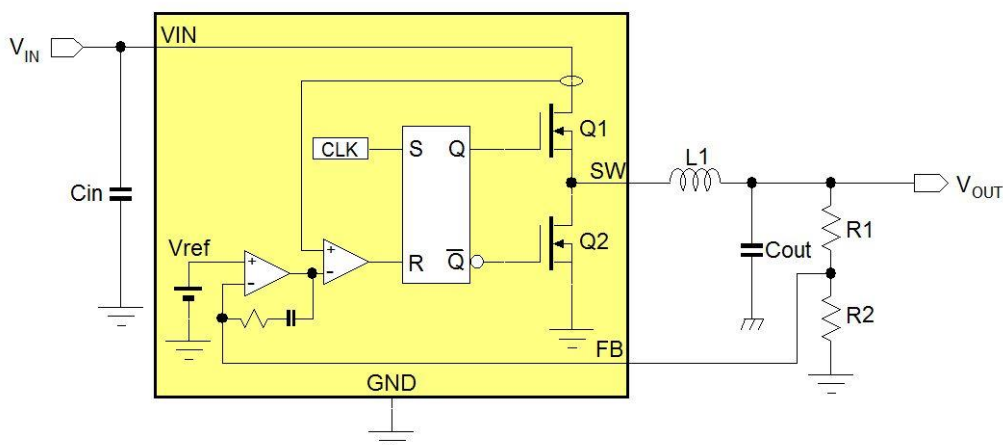

Figure 3. Basic Buck converter circuit
**Buck converters** are switch-mode step-down converters which can provide high efficiency and high flexibility at higher  $V_{IN}/V_{OUT}$  ratios and higher load current. The basic circuit is shown in Figure 3. Most Buck converters contain an internal high side MOSFET and low side synchronous rectifier MOSFET, which are in turn switched on and off via internal duty-cycle control circuit to regulate the average output voltage. The switching waveform is filtered via an external LC filter stage.